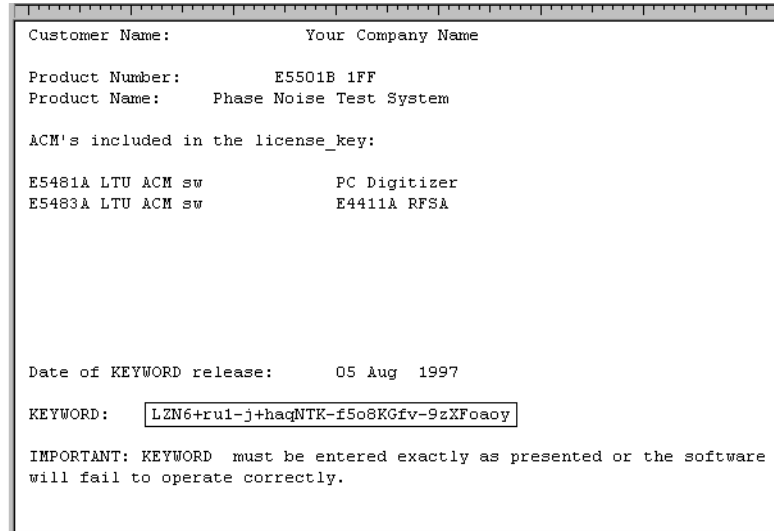

Figure 1-30 License_key.txt
- b Using Notepad, load **License_key.txt** (Figure 1-30).